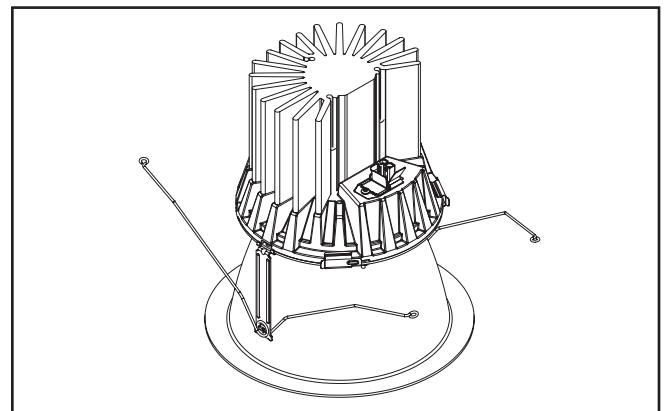

Figure 12.
5. Plug in the luminaire quick disconnect on the module. (Figure 12.)